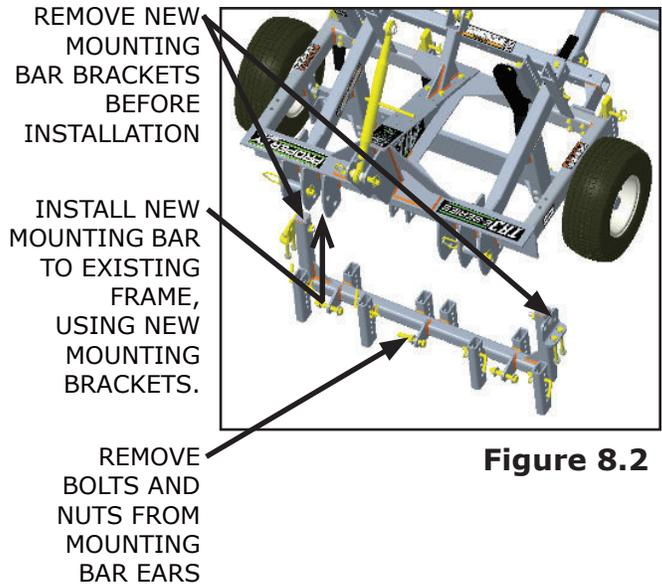

Figure 8.2
1. Remove the mounting brackets on both ends of the new mounting bar using (2) 3/4" wrenches and (1) 15/16" wrench as well as the bolts and nuts from mounting bar ears using (2) 15/16" wrenches (**Figure 8.2**).
3. Reattach the new mounting brackets (Removed in **Step 1**) by aligning the (2) holes in the new mounting brackets with the (2) holes in the existing frame, on both ends, using (2) 3/4" wrenches.